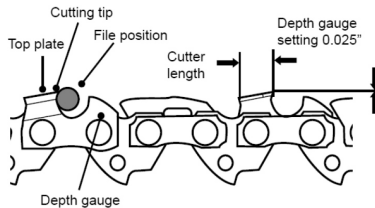

Fig. 28c
- 10). Use a depth gauge measuring instrument to check the height of the depth gauge. Depth gauge measuring jigs are available from most reputable tool merchants. (See Fig. 28c)